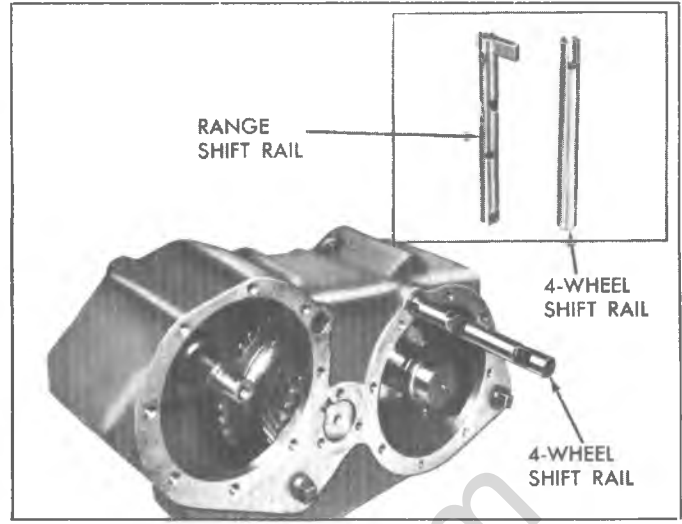

Fig. 7C-Shift Rail Removal
5. Remove shift rails (Fig. 7C), upper (range) rail first, then lower (4-wheel) rail.